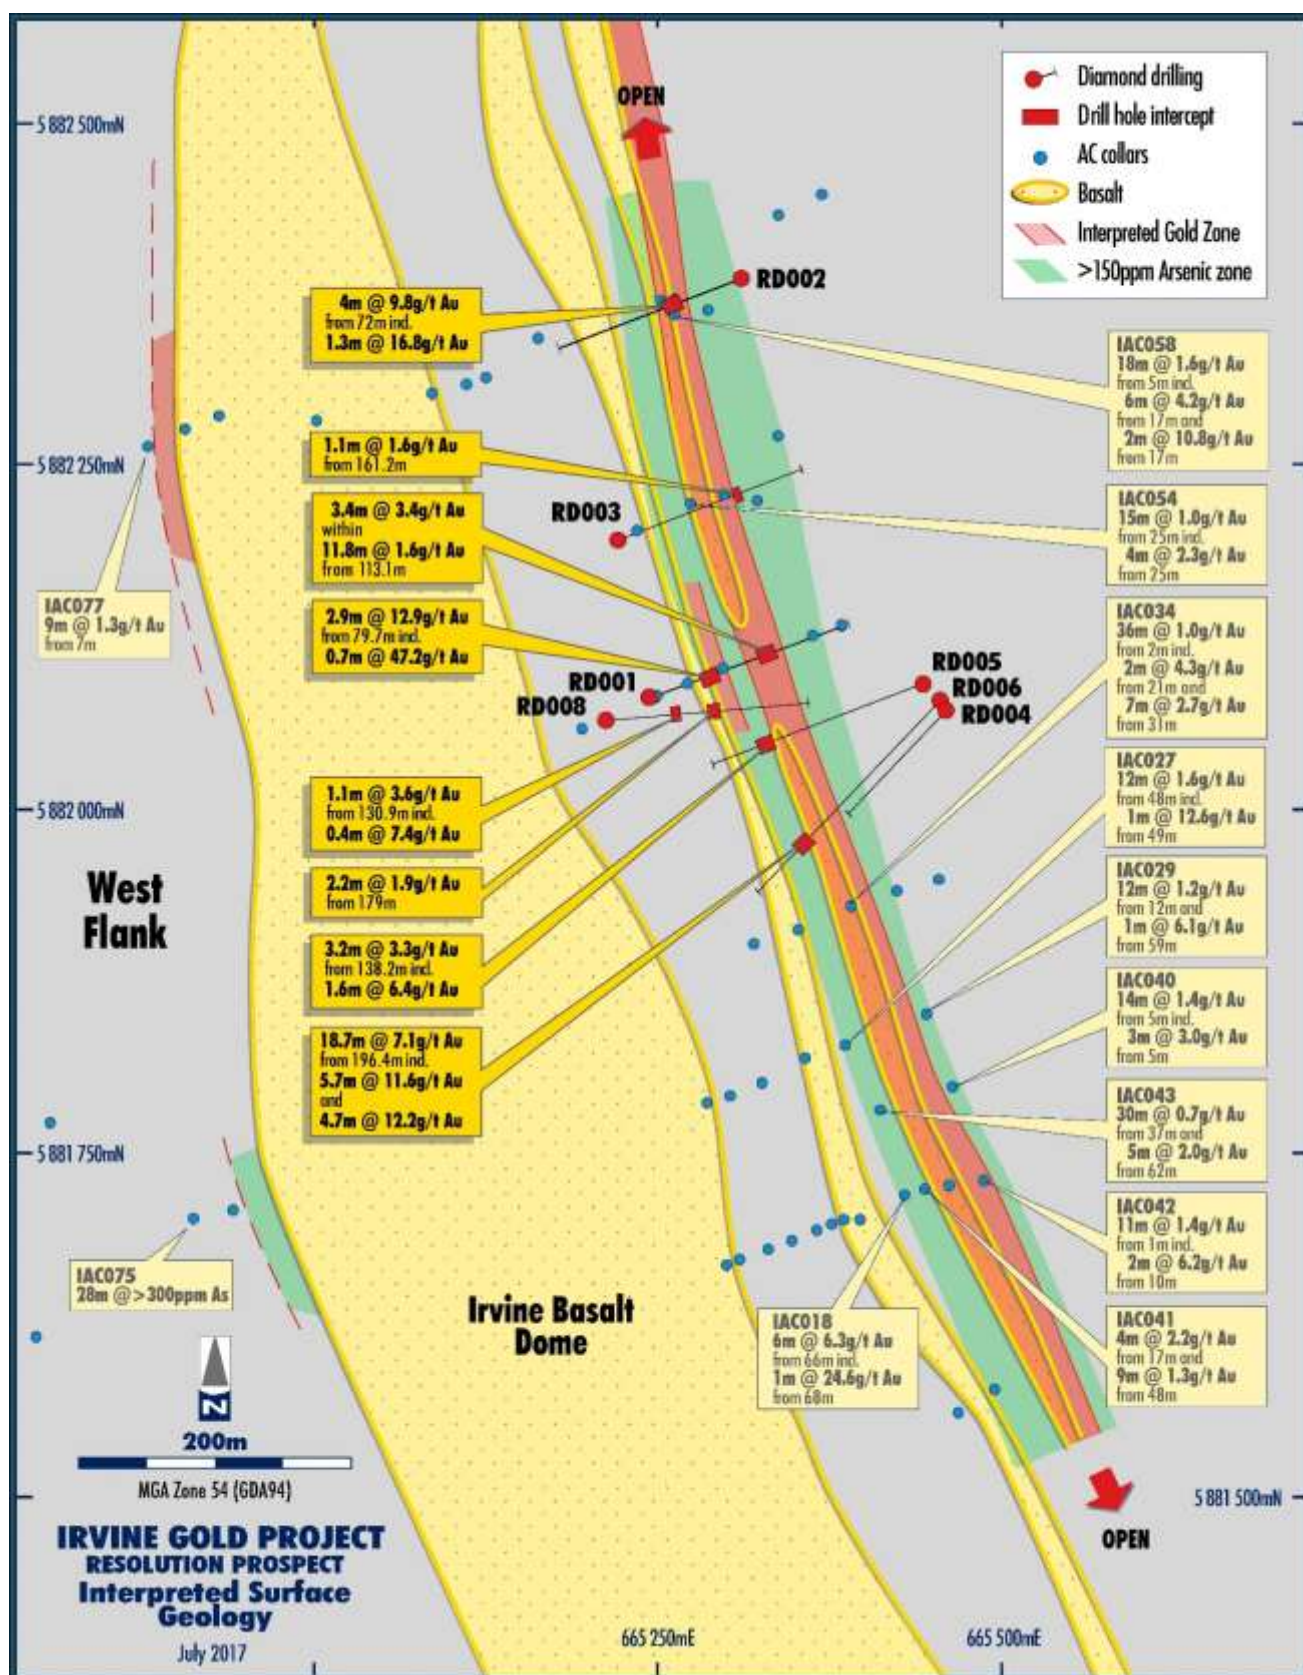

Figure 3: Plan view of the Resolution Lode showing recent diamond drill intercepts and interpreted basement geology at surface.
**Figure 2: Longitudinal projection of the Resolution Lode showing recent diamond drill intercepts and the interpreted plunge of gold mineralisation (refer to Figure 3 for plan view of Resolution Lode).**